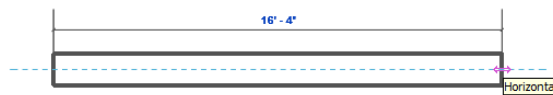

Figure 3-32 Sketching a horizontal wall segment
4. Move the cursor on the horizontal axis such that a dashed line appears at the central axis of the wall segment, as shown in Figure 3-32. Notice the two-sided arrow attached to the endpoint of the wall. This indicates that the wall segment being sketched is horizontal. A tooltip indicating the horizontal alignment is also displayed with two-sided arrow.